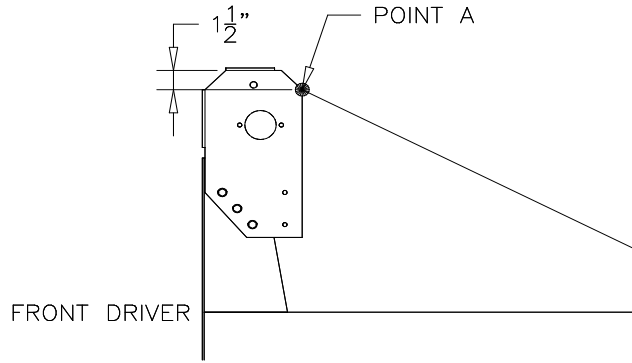
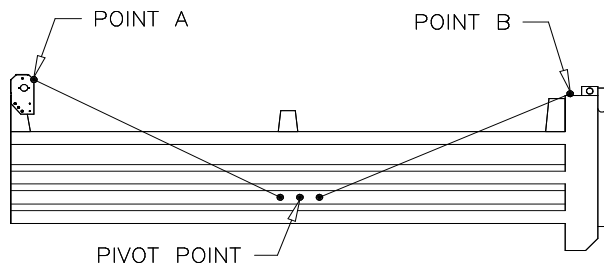

Figure 11
Figure 12
**Procedure:** Measure from Point A (see Figure 11) to a point on the lower inside rib of the box that is close to the pivot point (see Figure 12). Mark this point and record the distance as X. Using distance X, measure from Point B (see Figure 13) to a point on the lower inside rib of the box (see Figure 12). Mark this point.
Divide the distance between the first and second mark by two and mark this point as the pivot point (see Figure 12).